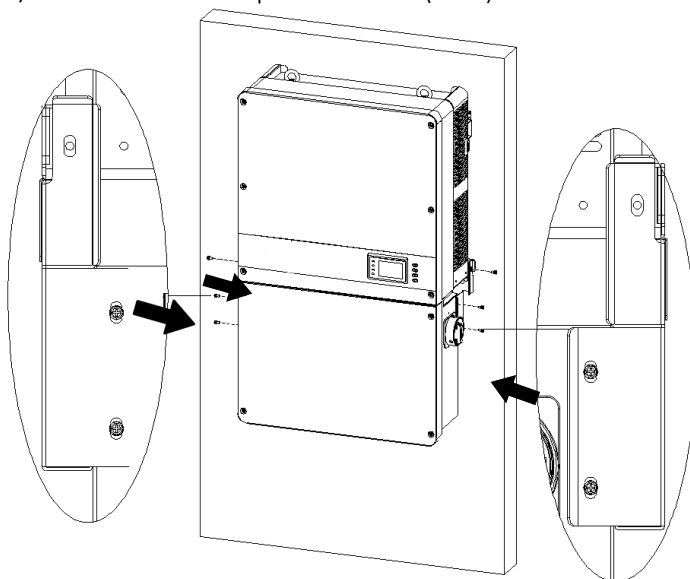

Figure 2.13 - Secure the Main Section and Wiring Box to the Bracket
- (5) Attach the main section and the wiring box to the mounting bracket with the **M6x18 bolts** (6 pcs). (see Figure 2.13)